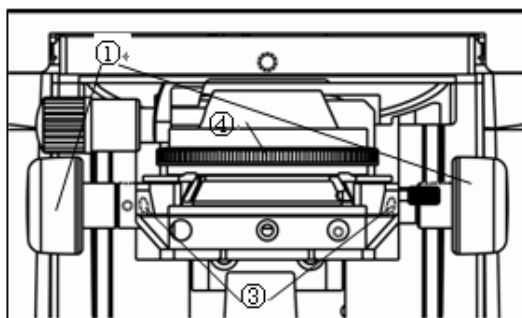
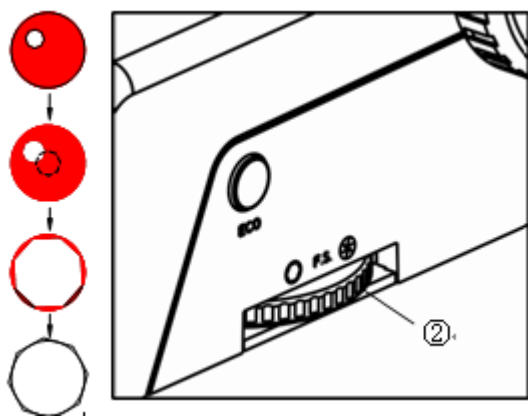

Fig 11
Fig 12
3.10 Adjust The Electric Condenser (fig 11,fig 12)
- Rotating the focusing handwheel of condenser①, condenser will move up and down. when using high power objective, condenser will up. When using low power objective, condenser will move down.